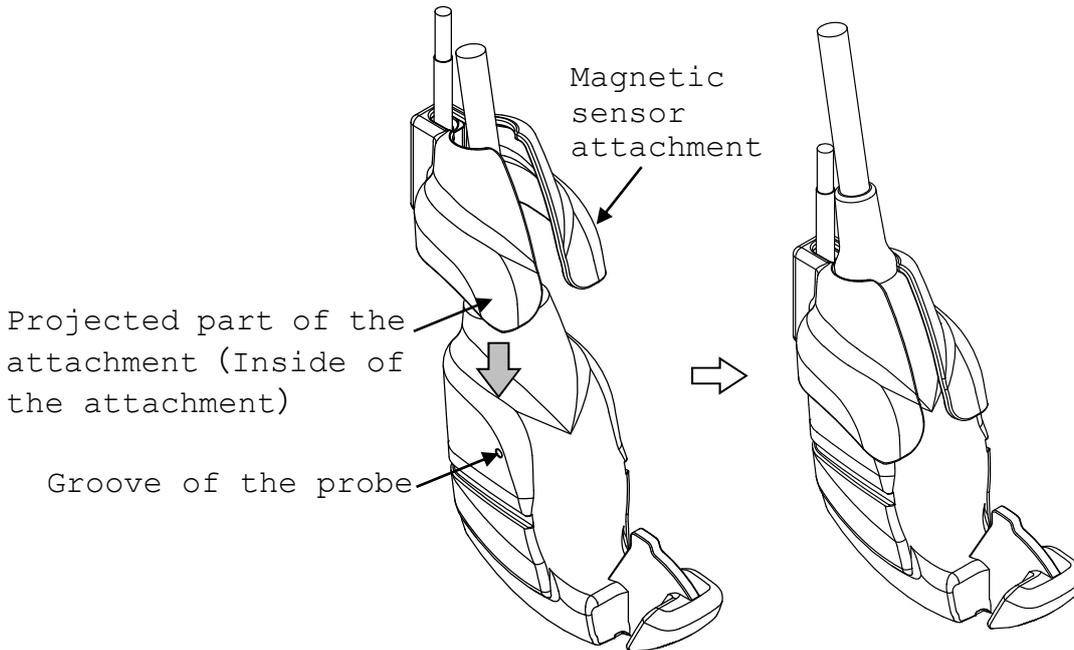

Fig.22 Attaching the Magnetic sensor attachment
- 2) Place the Magnetic sensor attachment on the probe as shown in Fig.22. Insert the projected part of the attachment into the groove of the probe.